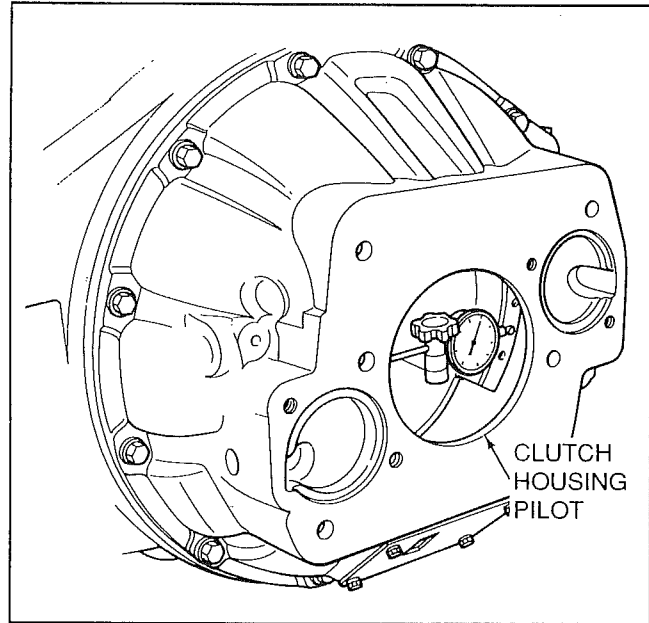

Figure 9-13. Checking Clutch Housing Pilot
2. If the inspection shows signs of wear, measure the rear pilot bore radial runout (Fig. 9-13). Refer to the transmission or vehicle manufacturer's specifications and recommended corrective actions if not within specifications.